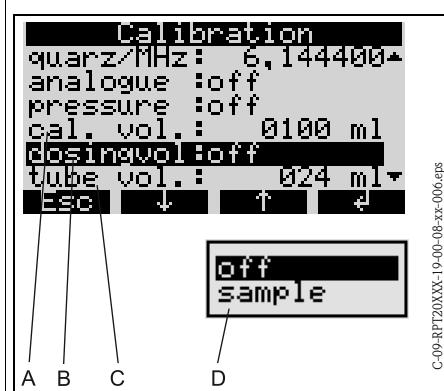

Fig. 19: Menu level CALIBRATION
4. Select the menu level CALIBRATION in the controller (=> Fig. 19; over: SETUP - SERVICE - CALIBRATION).
5. Enter the required calibration volume into the menu point CAL.VOL. (=> Fig. 19, pos. A).
6. Select menu point "DOSING VOL" (=> Fig. 19, pos. B).
7. Start a sample sequence by selecting the function SAMPLE in the selection list (=> Fig. 19, pos. D). Wait until the sampling sequence has ended.